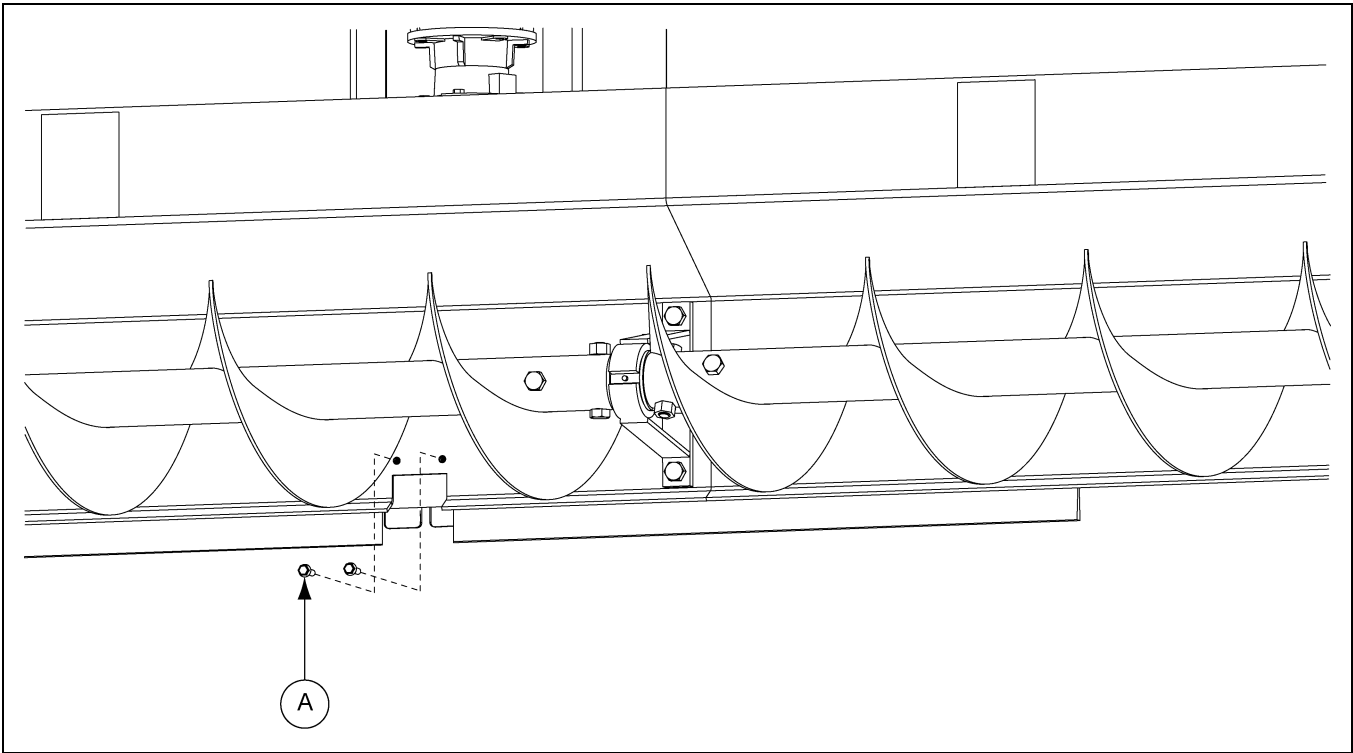

Figure 70
- 1. Install flange bolts (A) though the front of the sweep shield. (See Figure 70.)